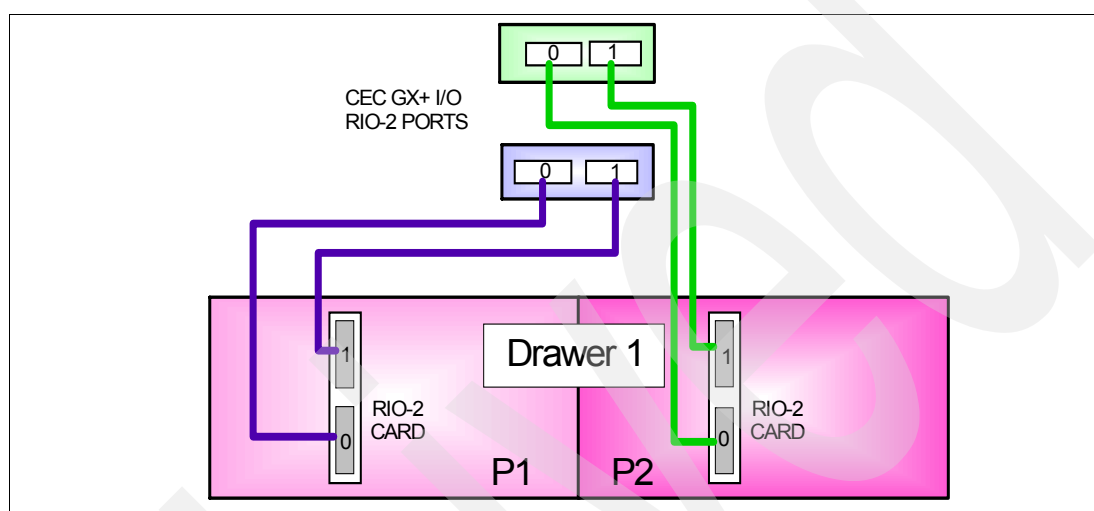

Figure 2-15 Dual loop I/O drawer (FC 5791)
- ▶ Dual-loop (Figure 2-15 on page 36) mode connects each I/O planar in the drawer to the CEC separately. Each I/O planar is connected to the CEC using a separate RIO-2 loop.
Although I/O drawers will not be built in half-drawer configurations, they can be cabled and addressed by the CEC individually using dual loop (half drawer) increments as shown in Figure 2-15).